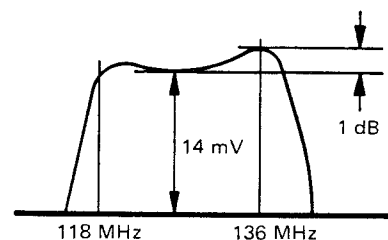

Figure 1
- (1) Connect the output of the sweep generator to TP8001, and connect the oscilloscope through the linear detector to TP8002.
- (2) Tune the receiver to 118.000 MHz, set the sweep generator center frequency to 127 MHz, and adjust T8011 – T8015 for the passband waveform shown in Figure 1.